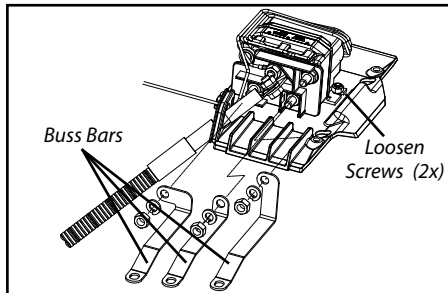

Figure 6
- Disassemble the control pack by removing the four (4) flat head torx drive screws.
- Remove terminal nuts and lock washers securing the three buss bars to the contactor (see Figure 6). Set aside terminal nuts and lock washers, as they will be used later on. Buss bars will not be used for new installation.